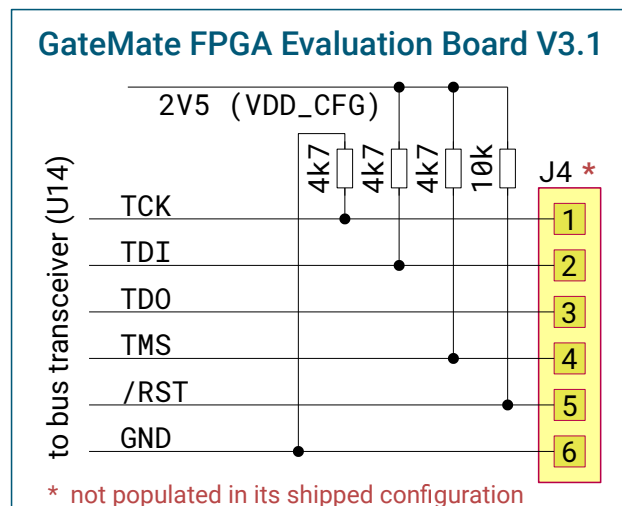

Figure 3.8: Optional JTAG interface connector J4
The JTAG interface can be accessed from any user device. For this, connector J4 (2.54 mm pin pitch, 6 pins) has to be populated. Figure 3.8 shows the pin assignment of the JTAG connector.
- An external JTAG device can feed a reset signal to the FPGA via the JTAG connector J4 pin 5 (see Figure 3.8).